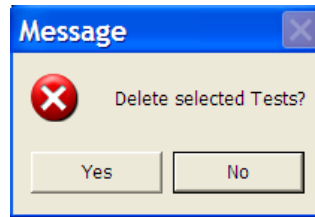

Figure 8-19: Message – Delete selected Tests?
4. Choose **Delete**. Message appears (Figure 8-19).